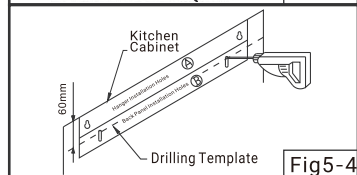

Fig5-4
- Rest the drilling template against the wall. The distance between the bottom of cabinet is 60mm. Drill holes at the indicated positions (1 hole each at left and right), fix sleeve anchor to the drilled holes. (Fig. 5-4)